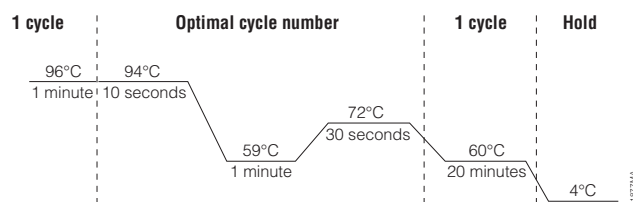

Figure 3. Thermal cycling protocol for the GeneAmp® PCR System 9700, Veriti® 96-Well Thermal Cycler and ProFlex® PCR System.
2. Select and run the recommended protocol, which is provided below and in Figure 3.